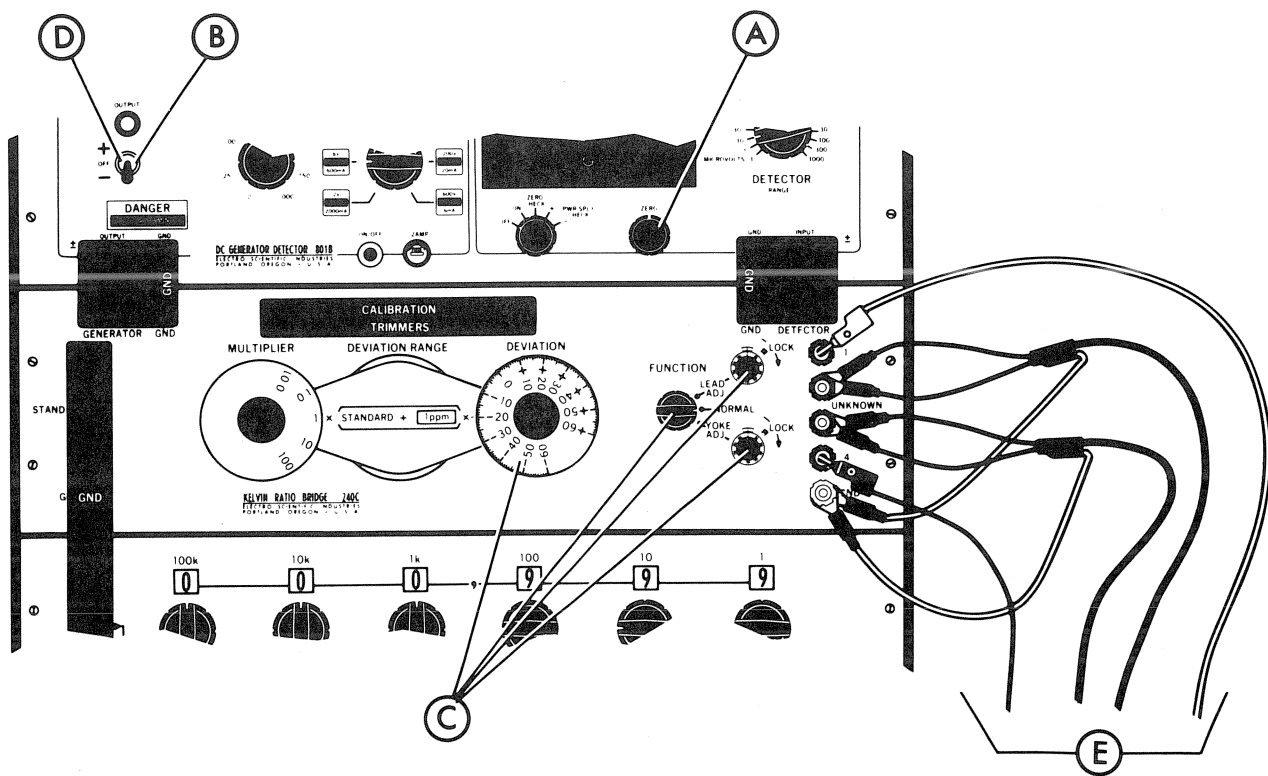

Figure 5-24. Calibration of 1 kilohm SR1
24. Measure the deviation of the SR1 from the series configured 1 kilohm transfer standard. Reference Figure 5-24.